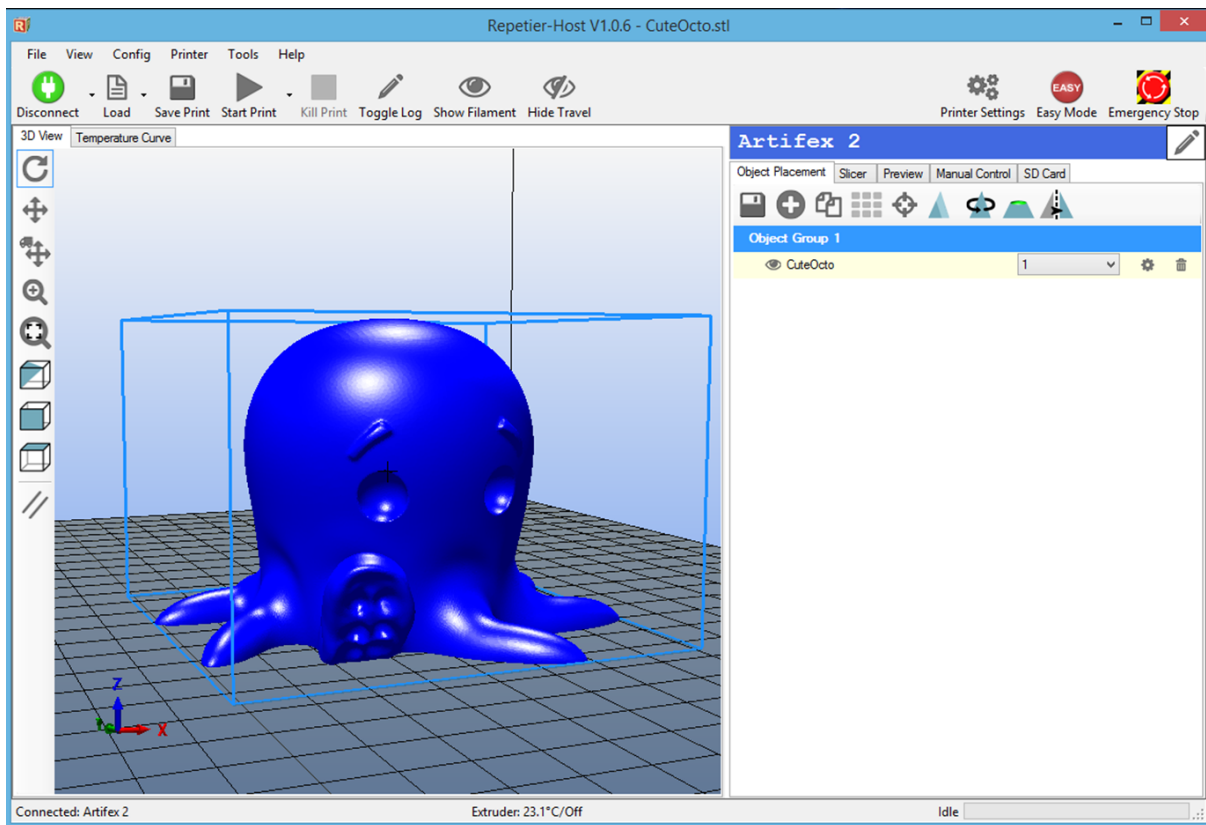

Figure 3.1: Repetier-Host with loaded 3D model CuteOcto.stl
3. Once the loading is completed, the 3D model will be displayed on the left "3D View" window, where you can rotate, zoom, move the model to view the 3D model. The "Object Placement" page on the right side listed the file name of loaded 3D model, available placement operations, and some model information. (Figure 3.1)